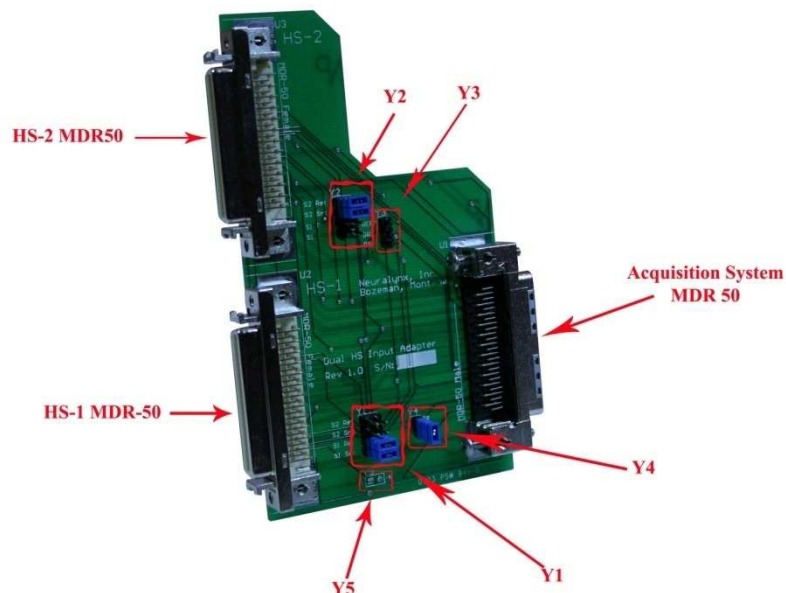

Figure 4-1 Labeled Adapter
A labeled picture of the adapter is shown in Figure 4-1. The designators and connectors will be referred to later in this manual.
* All Nets mentioned in the above bullets can be seen in Figure 4-1.